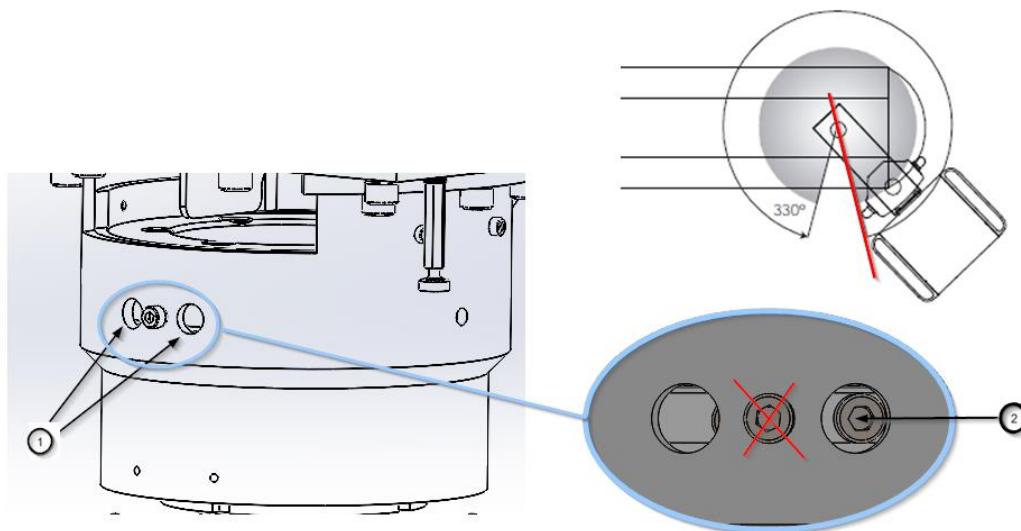

Fig. 11 Schematic diagram of rotation control
- Bring the column to the desired new maximum position giving sufficient clearance (the space of a fist) as shown in figure 11.